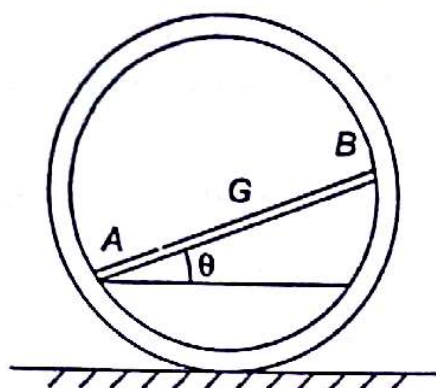

Fig. 15.21
- 15.1 A uniform bar AB of mass m is maintained inside the smooth surface of a cylindrical drum translating and acceleration at $0.6g$. Find angle θ to maintain bar in same position during motion (Fig. 15.21).